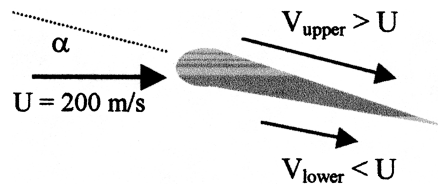

Fig. P3.150
3.150 An airfoil at an angle of attack α , as in Fig. P3.150, provides lift by a Bernoulli effect, because the lower surface slows the flow (high pressure) and the upper surface speeds up the flow (low pressure). If the foil is 1.5 m long and 18 m wide into the paper, and the ambient air is 5000 m standard atmosphere, estimate the total lift if the average velocities on upper and lower surfaces are 215 m/s and 185 m/s, respectively. Neglect gravity.